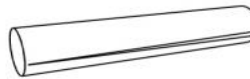

fig. 1
5. Get the groove pin, punch and hammer. Examine the groove pin. One end is smoothly round, with virtually no grooves. The grooves get wider as they reach the opposite end of the pin. See fig. 1